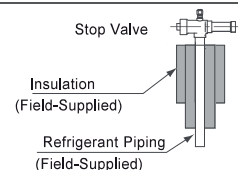

Fig. 5.2 Insulation on Pipes
- Insulate the refrigerant pipes as shown in Fig.5.2. After connecting the refrigerant piping, seal the refrigerant pipes by using the field-supplied insulation material. Insulate the unions and flare nuts at the piping connections completely. Insulate the liquid piping and gas piping completely to avoid decreasing of performance and dewing on the surface of the pipe.